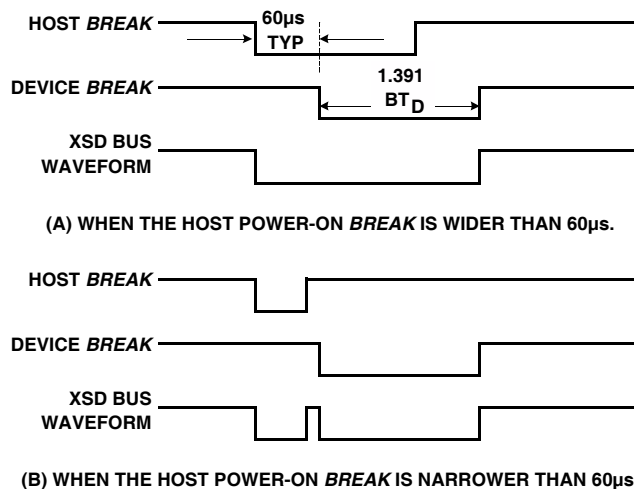

FIGURE 4. POWER-ON BREAK SIGNAL TO WAKE-UP THE ISL6296 FROM SLEEP MODE
Note that the ISL6296 will initiate the power-on sequence without waiting for the power-on 'break' signal to return to the high state. If the host sends an initial 'break' pulse wider than 60µs, the device-ready 'break' returned by the ISL6296 will likely be merged with the pulse sent by the host and, therefore, may not be detectable. Figure 4 illustrates the waveforms during the Power-on Reset. Figure 4 (A) represents the case when the power-on 'break' rising edge occurs after the device starts sending the 'break'. Figure 4 (B) represents the case when the power-on 'break' finishes before the device sends its 'break'. The device break signal is always 1.391 times of the device bit-time (BT, see XSD Bus Interface section for more details). Either case in Figure 4 will wake up the device successfully if the device is in the sleep mode.